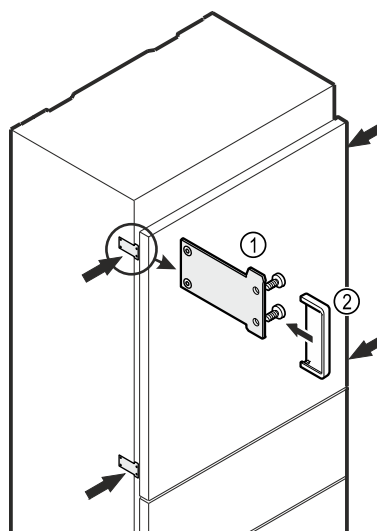

Fig. 20
- ▶ Secure the appliance to the cabinet unit using the mounting tabs Fig. 20 (1) and two 4x16 screws each.
- ▶ Attach the cover Fig. 20 (2).